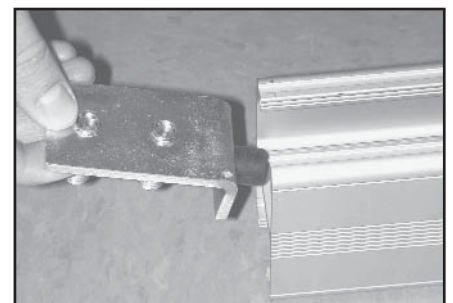

Figure 27
- Slide one stopper into each end of the rail with the rubber button going into the rail first (Figure 27).